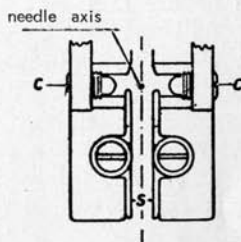

Fig. 27
Further to this operation, needle axis must always be on centre line of space « S » (fig. 27).
A) When sewing fabrics which are particularly thin, in order to avoid that needle, further to any slight deviation toward right or left, makes stitch visible, you will have to loosen or tighten the two screws « C » (fig. 27) of foot in order that needle touches them lightly when coming down; they act as a safety guide for this type of sewing.